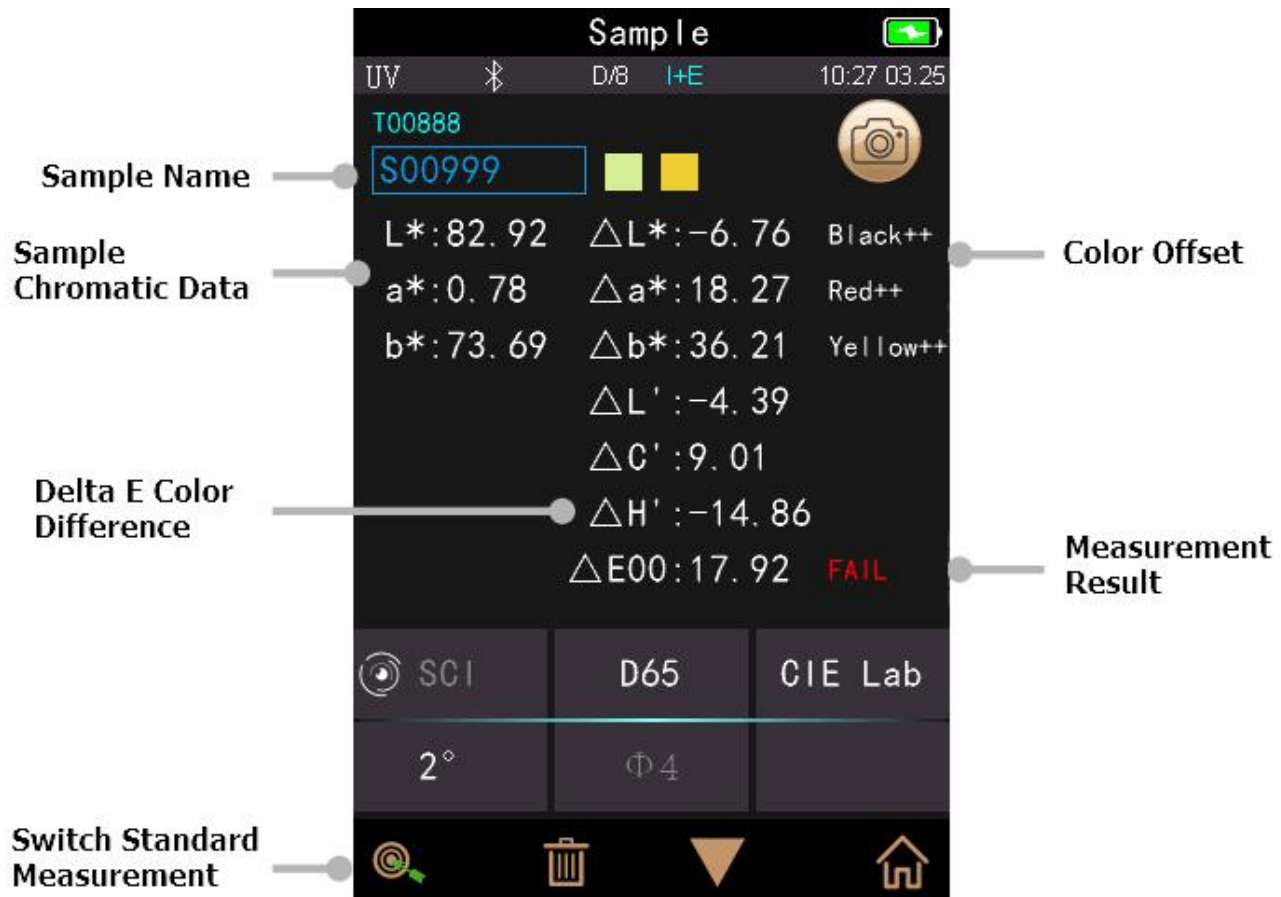
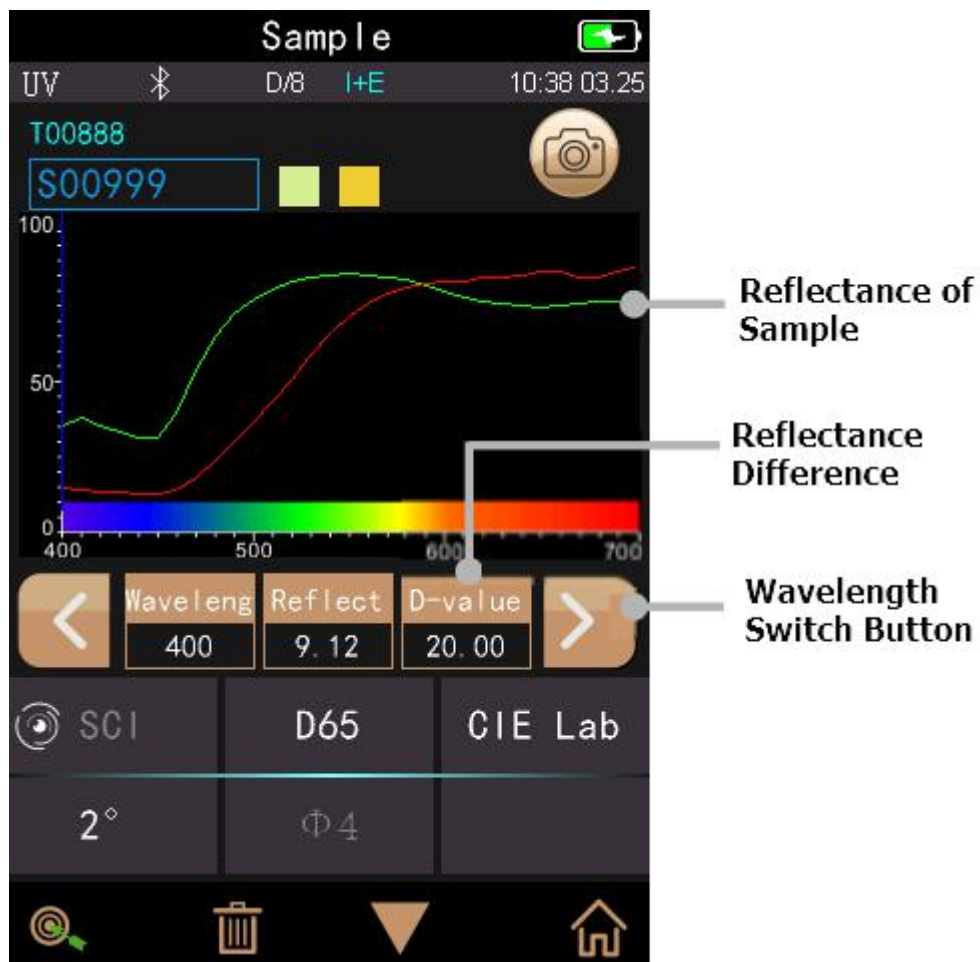

Figure 11 Sample Measurement
Figure 12 Reflectance of Sample Measurement
After testing the standard, click “Sample measurement” to enter Sample Measurement interface. It is the same steps with standard measurement. After measurement, it will display as shown in Figure 11 and in Figure 12. Sample measurement is similar with standard measurement but it will display the color difference between the current standard and measured sample.
9) Wavelength switch button: As shown in Figure 12, click < or >, the wave length and reflectance of the current sample will switch as range of 10nm interval.